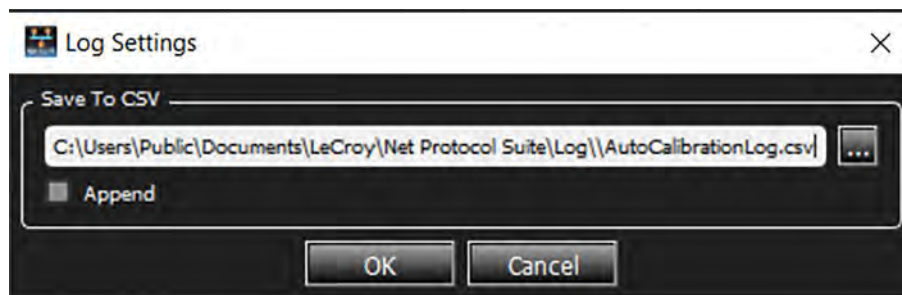

Figure 4.18: Log Settings for Auto Calibration
1. From the Auto Calibration settings dialog, click the check box for **Enable Calibration Log**, then click the wrench icon  to the right. See Figure 4.18.